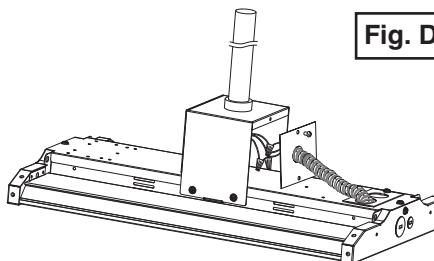

Fig. D-1
1. Align the pipe mounting bracket on the fixture back plate as shown in the **Figure D-1**.